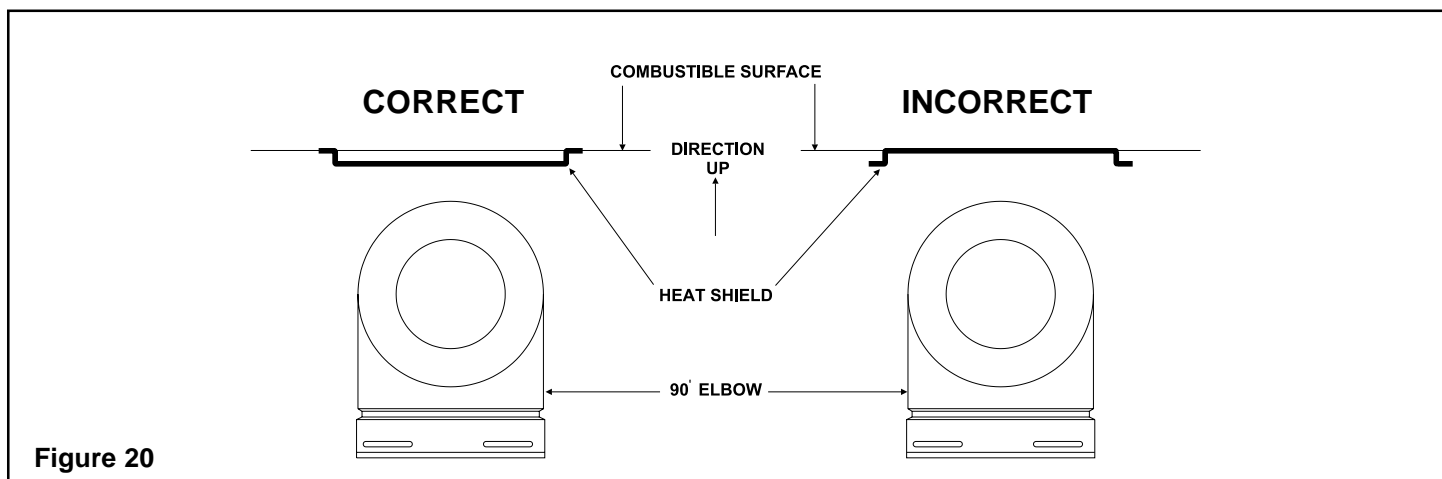

Figure 20
2. Fasten the shield in place using the pilot holes provided in the part. The shield should be oriented such that the 13 1/8 inch dimension (longest dimension) is running in the same direction the elbow is pointing. The shield should be centered directly above the elbow, and positioned so that it creates a 1/2 inch airspace between the shield and the combustible surface. See Figure 20.